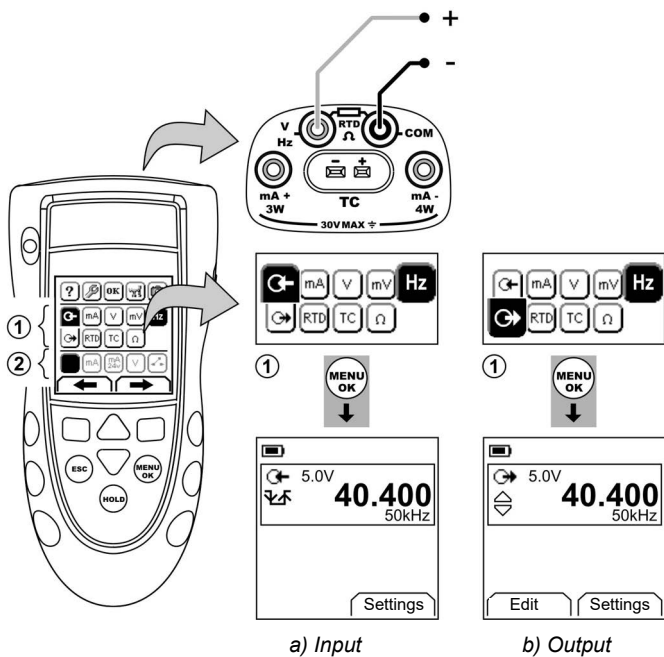

Figure 6: Example configuration - To measure/supply Hz or Pulses
1. Connect the instrument (Figure 6) and, if necessary, adjust the *Set Up* (Table 1).